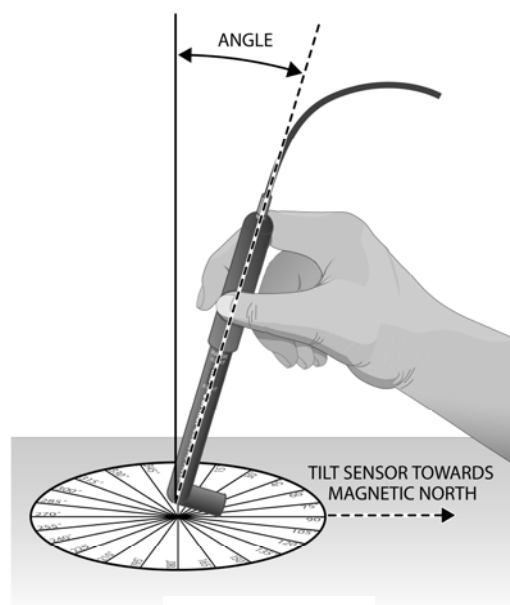

Figure 2
13. Slowly tilt the sensor toward and away from the direction of magnetic north. Monitor the magnetic field intensity on the screen. Continue to adjust the tilt until a maximum reading is displayed. Hold the sensor in that position. See Figure 2.